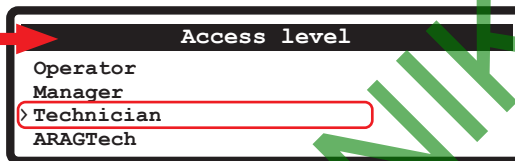

Fig. 43
- Select the user level for which you want to enter the PIN (symbol > Fig. 43) and press and hold the button ▶.